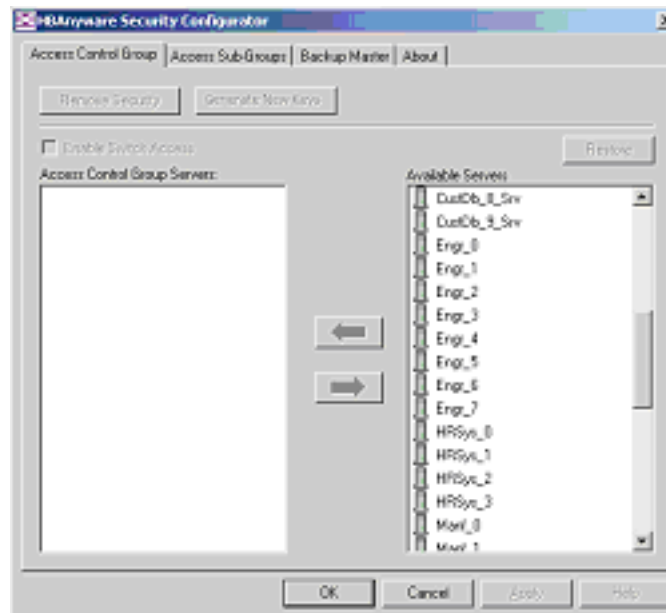

Figure 74: Access Control Group tab - No ACG Servers
1. From the MSC, start the HBAware Security Configurator. The Access Control Group tab appears (see Figure 74 on page 149).